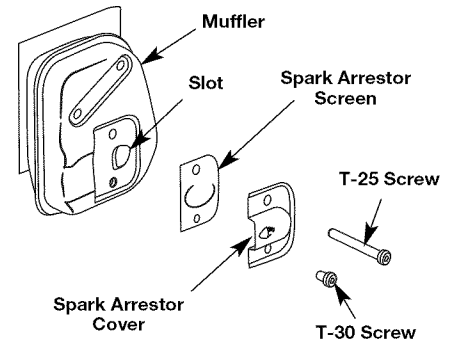

Fig. 38
2. With a flat blade screwdriver or Torx T-20 bit and a T-25 bit, remove the screws attaching the spark arrestor diverter to the muffler (Fig. 38).